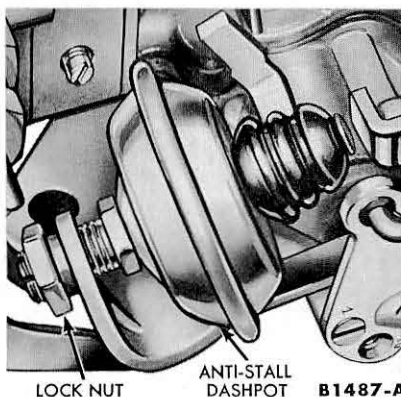

FIG. 19—V-8 Anti-Stall Dashpot Adjustment
1. Loosen the anti-stall dashpot lock nut (Fig. 19).